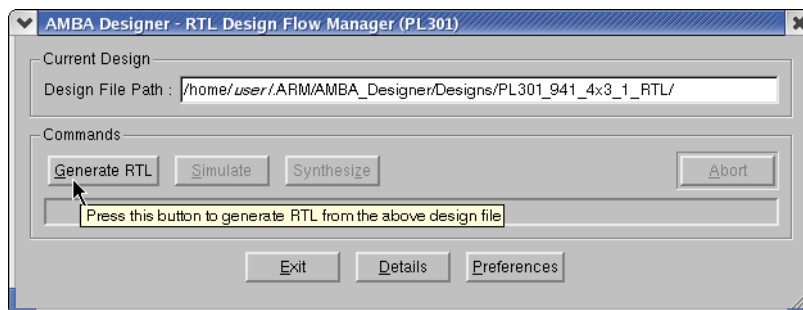

Figure 8-5 Generate RTL
5. Click on **Generate RTL** in the RTL Design Flow Manager dialog box as Figure 8-5 shows.